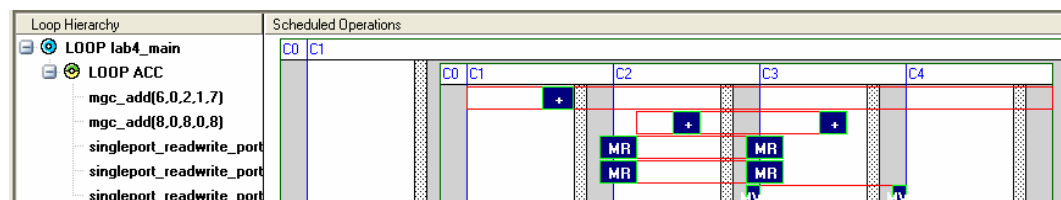

Figure 8 Partially Unrolling Without Changing Word Width
- ✓ Open the Gantt chart and right-click and select “View sorted -> Component Utilization view”. Notice that there are two reads on each of the “a” and “b” RAM interfaces (Figure 8). Remember from the previous lab on memories that widening the word width is typically required to merge memory accesses.